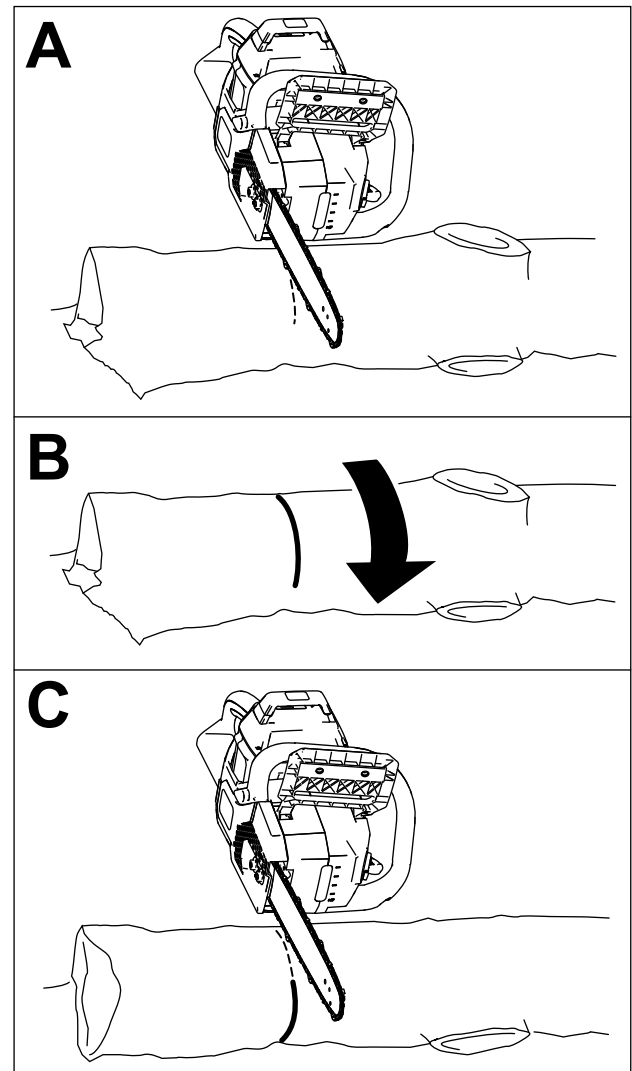

Figure 22
- If the whole length of the log is supported on flat, level ground, cut a third of the diameter from the top, then roll the log over and make another cut to meet the first cut (Figure 22).